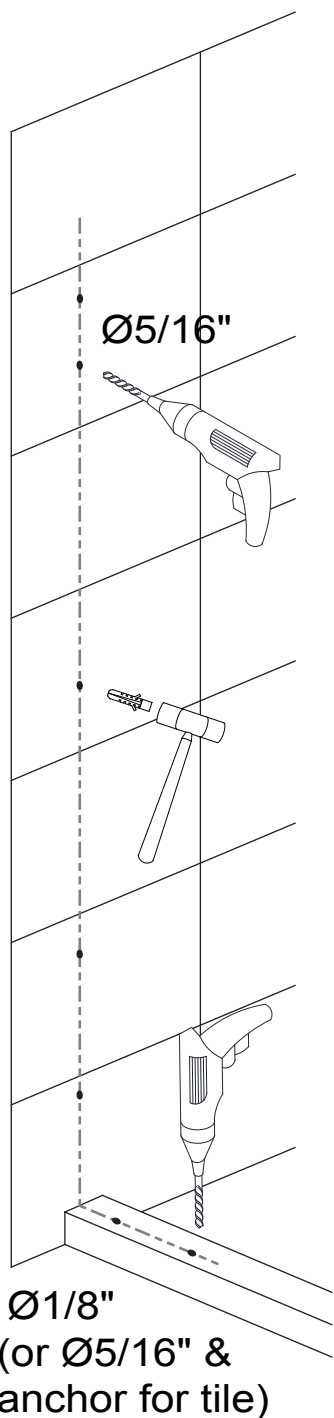

Fig 7
5. Drill $\text{\O}5/16''$ holes in the wall and install the wall anchors. Drill $\text{\O}1/8''$ holes into an acrylic threshold (or $\text{\O}5/16''$ holes and anchors for a tile threshold). **(Fig 7)**